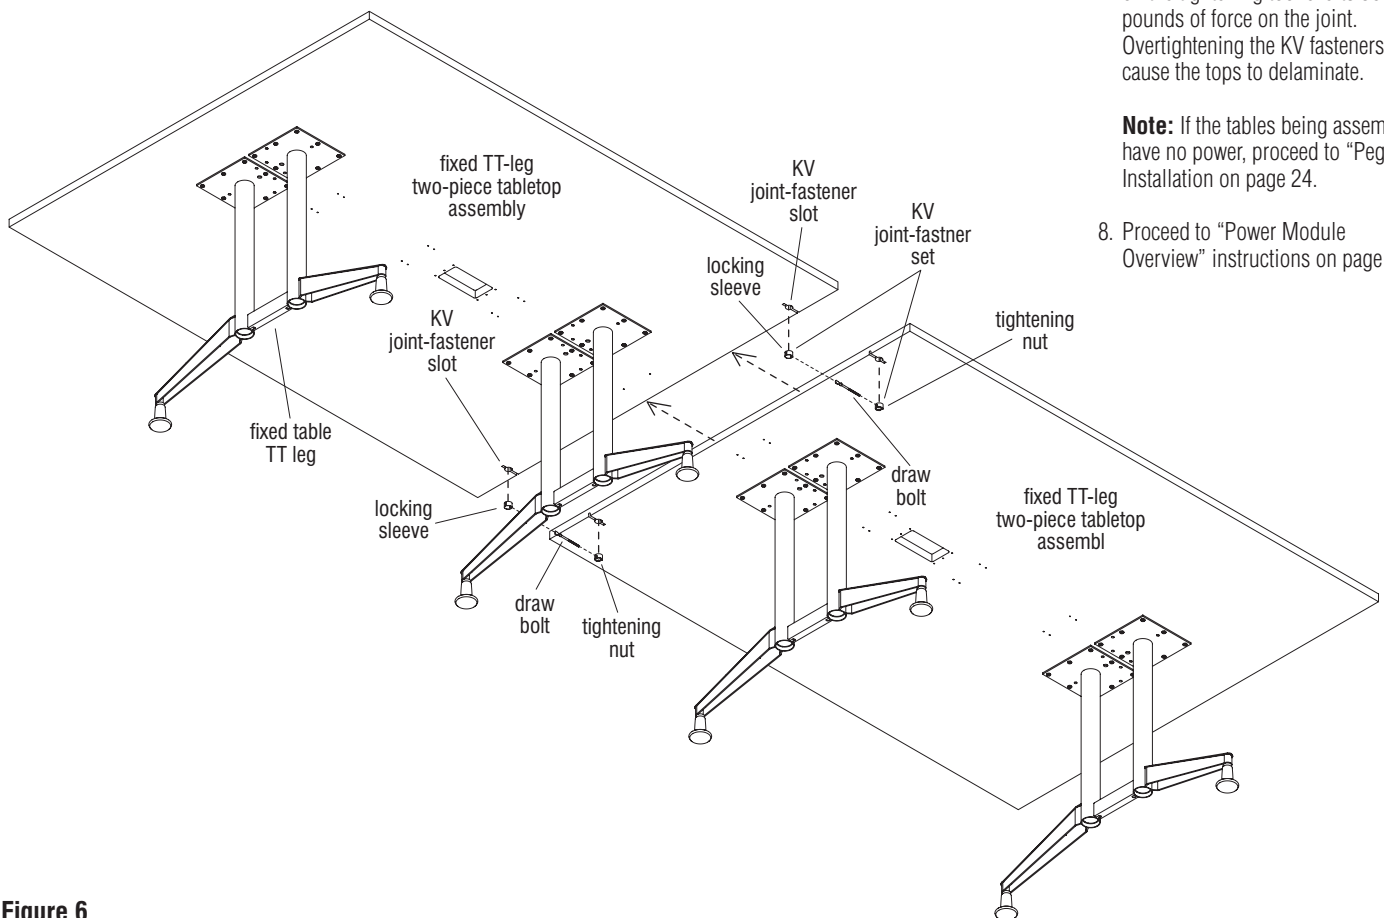

Figure 6
- Carefully turn both tables in the upright position. Move both tables together making sure the holes for the KV joint-fasteners face each other (Figure 6).
- Assemble KV fasteners by first twisting a draw bolt into each tightening nut a few turns, then press each pair into a $\frac{7}{8}$ " hole and slot in the underside of the tabletops to be joined. The flat-end of each draw bolt will be visible in the $\frac{7}{8}$ " hole on one side of the units being joined. One at a time, position each locking sleeve as illustrated and insert locking sleeves into the $\frac{7}{8}$ " holes so that the slotted sleeve engages the rounded collar on the bolt (Figure 6 & Detail A).
- Tighten the nut with a tightening tool or a nail-set. Check the side edges for proper alignment. The side edges should be smooth and level with no gaps. Adjust as necessary to achieve a "seamless" look (Figure 6).